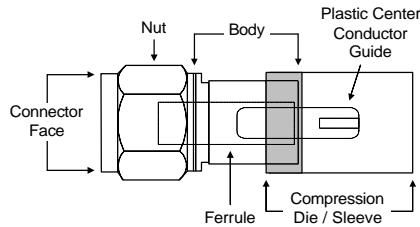

Figure 2
- C. Insert the prepared cable end into the connector body, aligning the center conductor and dielectric in the connector ferrule. Insert center conductor into the plastic center conductor guide to assist alignment. (Figure 2)
- D. Insert cable and remove the plastic guide as it protrudes from the connector face. Continue inserting the cable into the connector until you see the center conductor extend slightly past the end of the nut and the surface of the dielectric becomes flush with the inside bottom of the nut. (Figure 2)